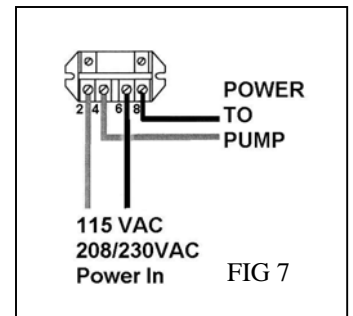

FIG 7
3. Connect pump to contactor terminals 4 & 8 (See FIG 7). If a booster pump is used, with a pool cleaner, connect this pump to 4 & 8 on a second contactor (Optional Contactor VRX100KIT). The contactor control (2 wires supplied) MUST be connected onto the board next to the solenoid valve terminals, that is, in motor relay position 3. One reason to connect the booster pump through this system is to protect the booster pump motor from burn out if the VR1000 were to stop the primary filter pump. Additionally the timers can then be used to control the timing of the Booster pump.
6. Connect incoming power to 2&6 on the power relay(s) (See FIG 7). Assure that the earth ground wire connector between the conductors is secured.